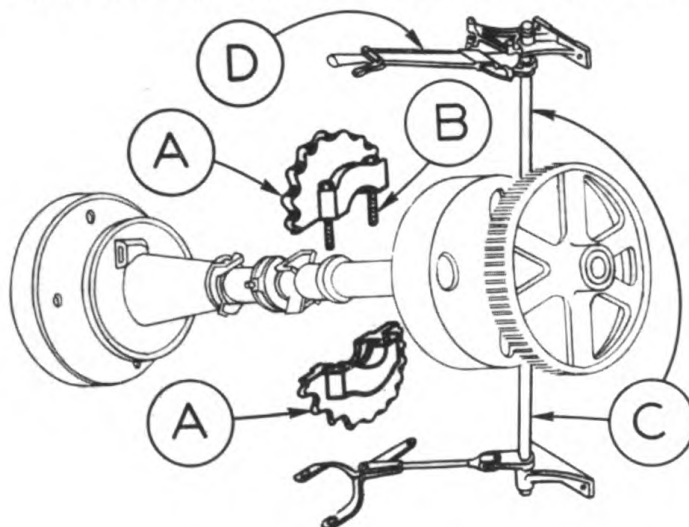

FIGURE 79
When a machine is shipped from the factory as a combination lifting crane and shovel, the racking-in sprocket and the operating mechanism to shift the sliding jaw clutch is already installed. When a machine is shipped as a crane only or dragline only, the racking-in sprocket and the sliding jaw clutch and lever linkage are omitted. To convert a crane or dragline to a shovel, move machine to cribbing prepared for storage of crane or dragline boom and remove boom as described on page (97). Remove crane or dragline laggings from the right and left hand drums of the main drum shaft and store. Bolt the tapered shovel hoist lagging to the left hand drum; place the two halves of the double sprocket lagging around the right hand drum and bolt securely (see Figure 72, Page 95.) To install the racking-in sprocket and sliding jaw clutch fork and lever linkage, as shown in Figure 79, place the two halves of sprocket (A) around the boom hoist shaft, on the shoulder provided for the sprocket, and bolt securely with bolts (B). Secure lever operating linkage (C) to turntable with bolts through holes provided on turntable and attach lever (D).